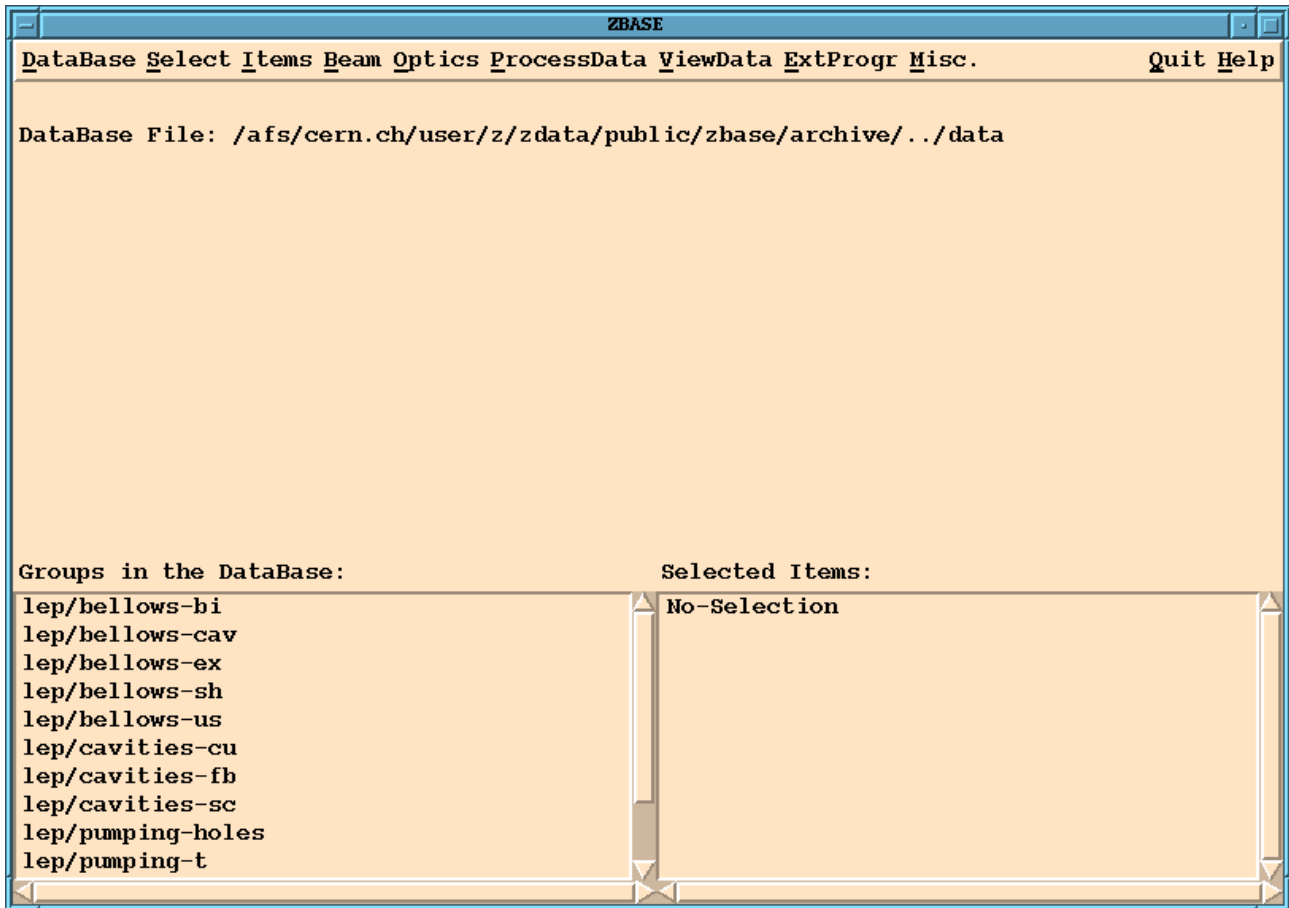

Figure 3: *The graphical user interface for the ZBASE program.*
Fig. 3 shows the graphical user interface for the **ZBASE** program. The interface consists of a menu bar and three display areas:
- The second display area in the lower left corner of Fig. 3 lists all impedance **groups** which are available in the data base.
- The third display area in the lower right corner of Fig. 3 lists the **selected items** that have been selected for further processing.
data base directory the program displays an error message and aborts the process. The current data base directory is always displayed in the main display area of the **ZBASE** user interface (→ Fig. 3). (See Section 7.1.3 for how to create a private copy of the data base directory.)